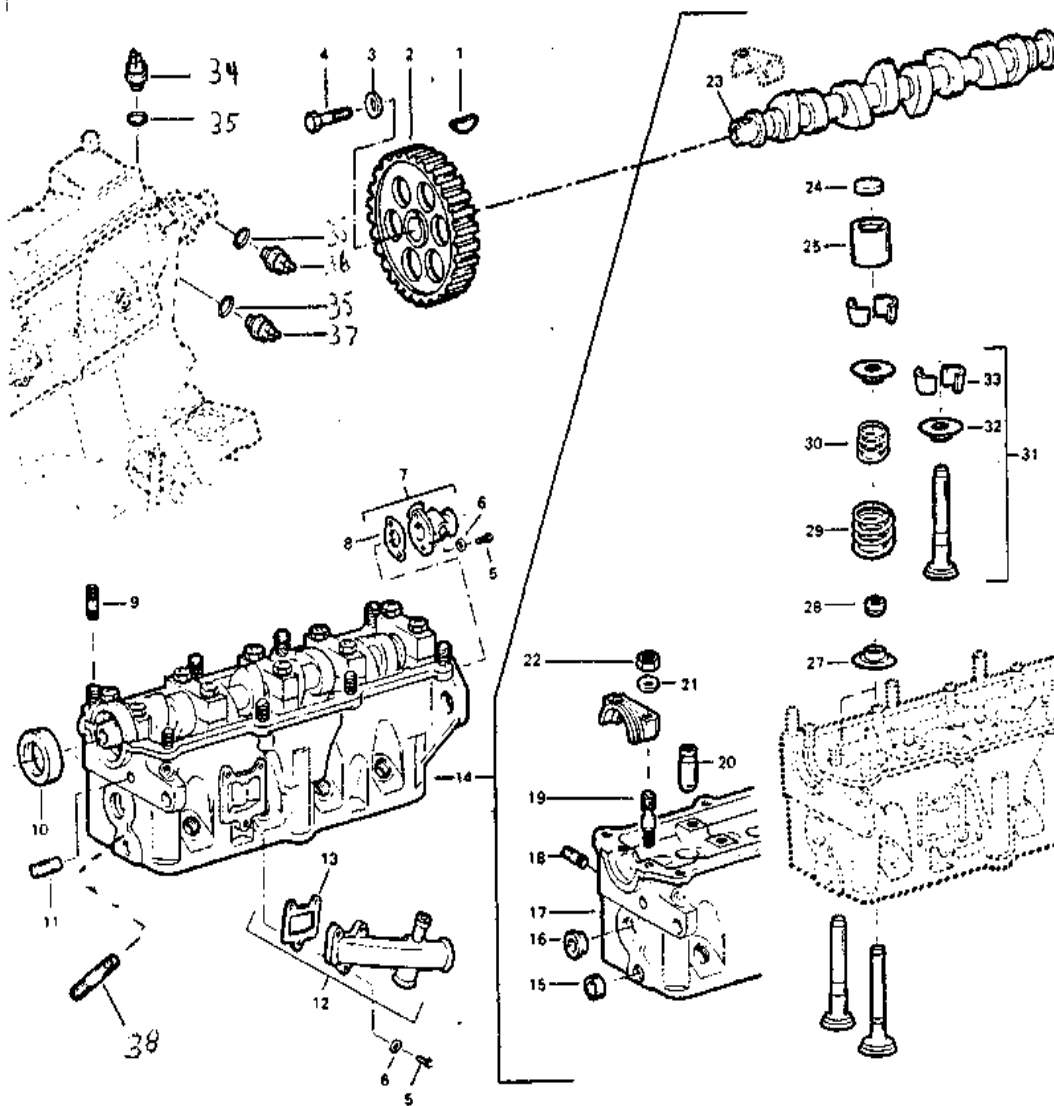

Figure 1 Cylinder head assembly
3.7 Torque standards. - The following Table lists torque standards that shall be used when rebuilding the VW 1.7 litre engine cylinder head, see Figure 1 for component identification.